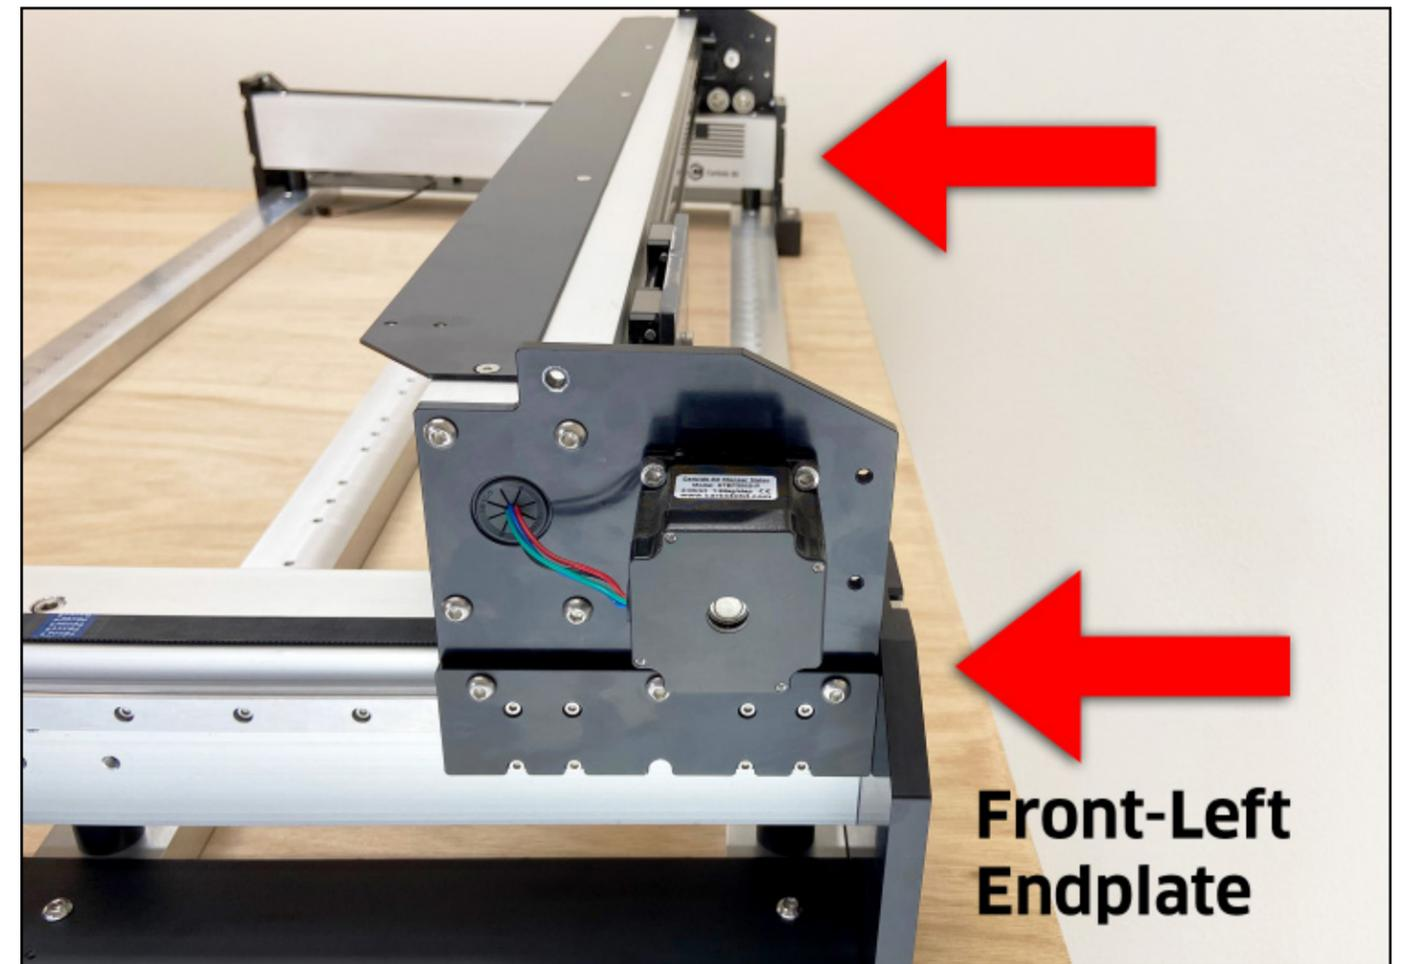

Figure 4-9
3. Adjust the squareness of the baseframe until both ends of the gantry touch the front endplates. **See Fig. 4-9.**
6. Use a 4mm hex key to fully tighten the six (6) M6×12mm BHCS securing the gantry to the left and right Y-Axis carrier plates.
7. Use a 4mm hex key to fully tighten the eight (8) M6×6mm BHCS securing the left and right drag chain support panels to the baseframe.